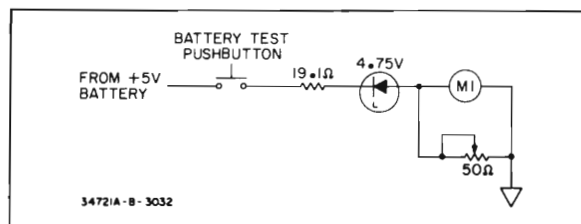

Figure 4-2. Battery Test Circuit.
4.4. BATTERY TEST CIRCUIT (See Figure 4-2).